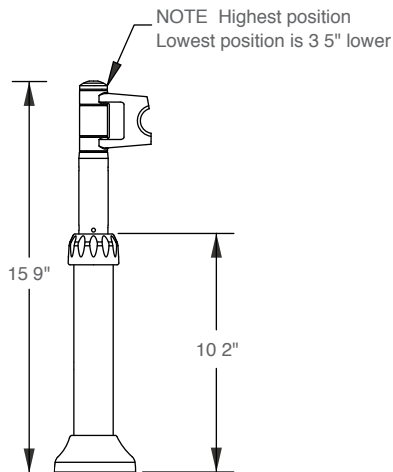

Figure 5.1 Standard Post, Top Mounted
Standard Posts are comprised of a large outer tube and narrow inner pole (Figure 5.1, page 43), and are appropriate for heavy-duty applications such as workstations requiring multiple monitors. They may be adjustable or non-adjustable in height, and are available only in one-row configurations.
- The height of the Post is dependant on the bracket. When combined with a Top-Mount Bracket, the Standard Post will be 3.1" shorter than when used with a Bracket-Mounted Arm. This is because Top-Mounted Arms provide an extension of the post itself. See figures 5.1 and 5.2.